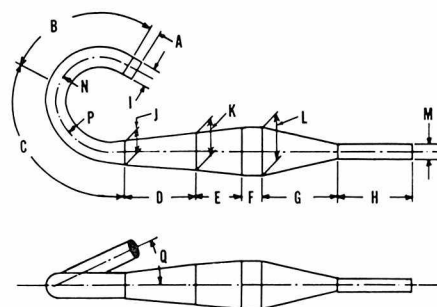

Fig. BST 2-7—Drawing of expansion chamber suggested. Refer to text for dimensions.
**EXPANSION CHAMBER.** Refer to Fig. BST 2-7 and the following specifications for constructing expansion chamber suggested by manufacturer.